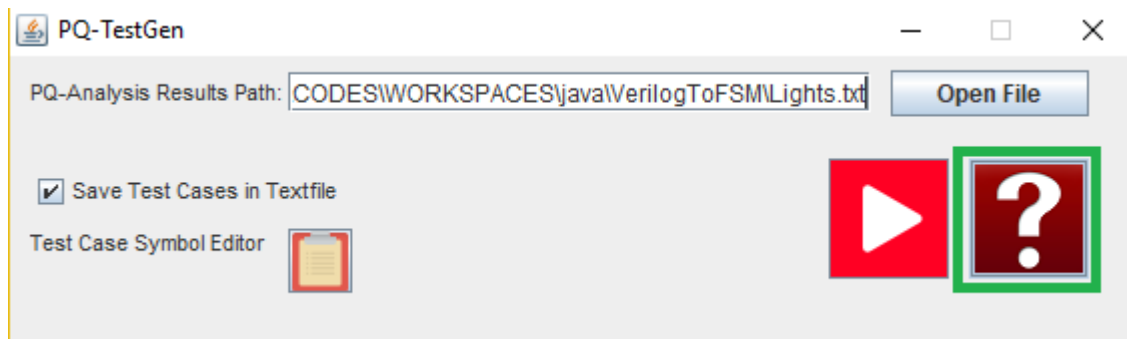

Figure 7
-Click “Help Button >” to see this manual. (Figure 7)